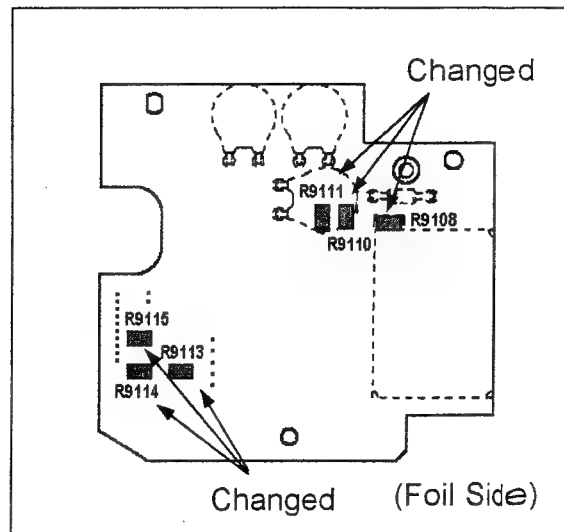

Fig. 7
- 2). Resistor R9108 is changed from 1/10W, 1M Ω to 1/10W, 0 Ω on the foil side as shown in figure 7
- 3). Resistor R9110 and R9111 are changed from 1/10W, 1M Ω to 1/10W, 470K Ω on the foil side as shown in figure 7.
- 4). Resistor R9113 is changed from 1/10W, 1.5M Ω to 1/10W, 470K Ω on the foil side as shown in figure 7.
- 5). Resistor R9114 is changed from 1/10W, 1.5M Ω to 1/10W, 680K Ω on the foil side as shown in figure 7.
- 6). Resistor R9115 is changed from 1/10W, 220K Ω to 1/10W, 820K Ω on the foil side as shown in figure 7.